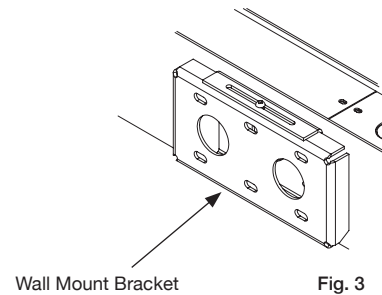

Fig. 3
- Lift and drop the fixture onto the wall-mounted brackets (Fig.3). The fixture brackets will sit atop the wall-mounted brackets. The fixture can slide approx. 1 inch in each direction for positioning.